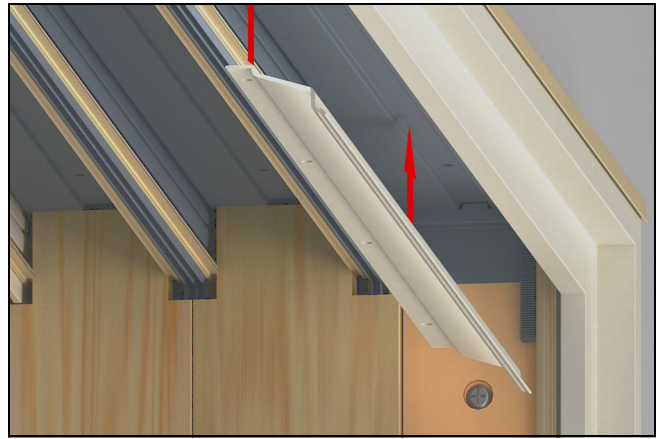

Figure 39
- Remove tape from head jamb structural clips in head jamb and fasten using #8 x 3" black installation screws through all the pre-drilled holes. See figure 39.